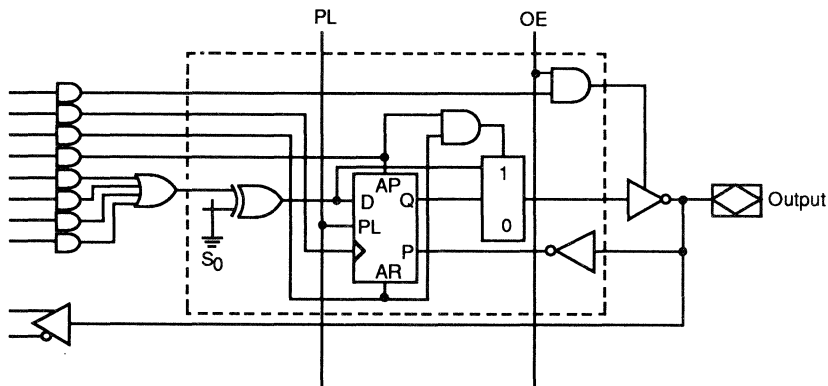

Figure 1. PAL16RA8 Macrocell
The PAL16RA8 has eight dedicated input lines and eight programmable I/O macrocells. The Registered Asynchronous (RA) macrocell is shown in Figure 1. Pin 1 serves as global register preload and pin 11 serves as global output enable. Programmable output polarity is available to provide user-programmable output polarity for each individual macrocell.